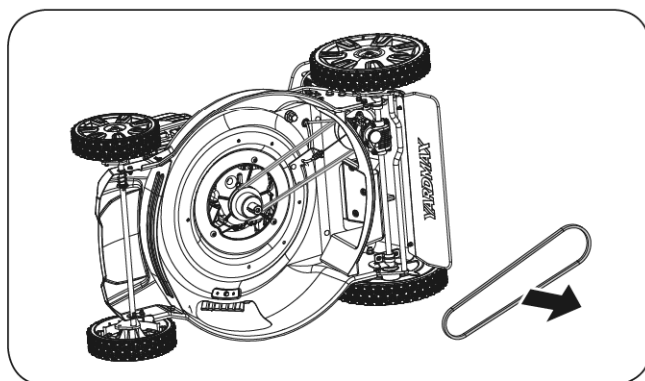

Figure 28
4. Remove the belt. (See **Figure 28**)